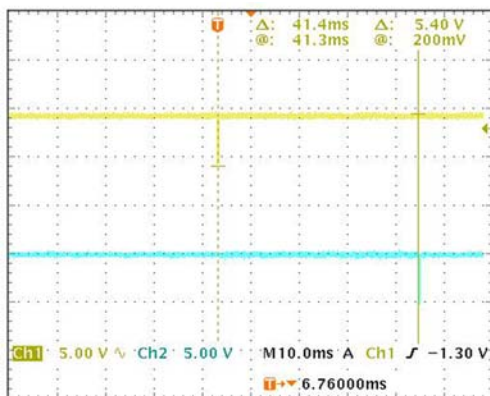

Figure A1 – Oscilloscope output of first byte on transmit and receive ends.
Two 19200-baud 9XStream wireless modules were configured with the sync timer command (SY) set to 20 ms (2 seconds) and the transmission times were observed. One byte was sent when the modules were out of sync and was followed (within 2 seconds) by a second byte. Figure A1 shows the observed results from the oscilloscope. (The pulse on the transmitter is shown in yellow and the pulse on the receiver in blue.)
From Figures A1 and A2, it is evident that the sync timer parameter can save significant amounts of time by reducing the header length.
As shown in Figure A1, the first byte, which included synchronization information in the header, was sent and received in 41.4 ms. Once the modules were synchronized, the second byte transmission did not have the synchronization information included in the header. This transmission occurred in only 10.0 ms – a savings of about 75%. This is shown on similar testing on the 9600-baud modules showed 48.4 ms to transmit the first byte and synchronize the modules, and 16.2 ms to transmit the second byte without synchronization information. This experiment was followed by a second test to note the effect of the sync timer command on transmitting a continuous data stream.